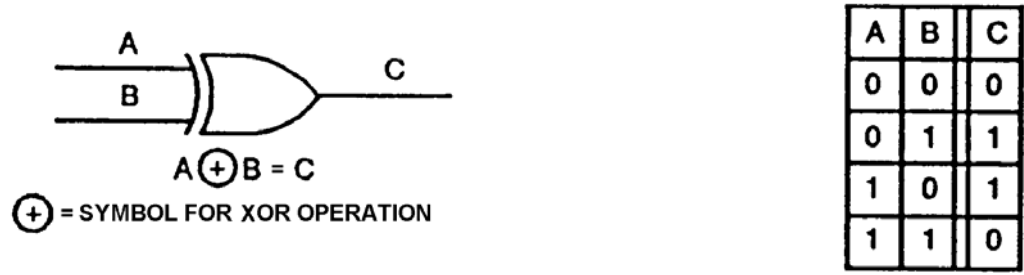

Figure Q-20. XOR Gate
(6) The NOT indicator (-O-) is usually referred to as a state indicator. It indicates what state the inputs and outputs are in when they are active. So remember that these two gates may appear on a schematic depending on the desired inputs or outputs from them.
g. Exclusive-OR (XOR) Function. An XOR gate is an OR gate which gives an output only when the two inputs are different. Figure Q-20 shows the symbol and truth table for an XOR gate.